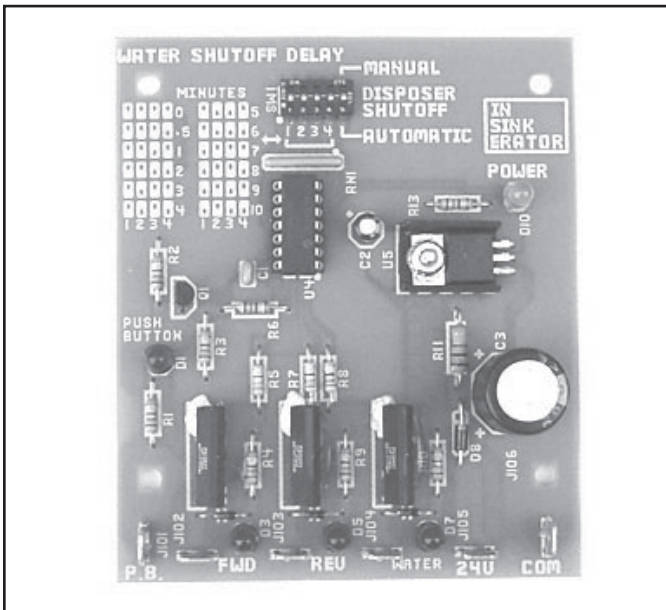

Figure 8.
*NOTE: This feature is set in the manual position at the factory. To activate the automatic timed disposer shut-off, disconnect the electric power to the control center, then open the control center door. Locate the Dip Switch Module at the top of the printed circuit board (see Figure 8). Move the #5 dip switch from MANUAL to AUTOMATIC. The disposer now automatically shuts off 10 minutes after it starts.*
Locate the water shutoff delay at the top of the printed circuit board in the CC-101K (See Figure 8). Set the dip switches for the desired water shut off delay. Use the guide printed on the circuit board to set minutes of delay. The dip switches should be moved to match the filled in areas of the guide.